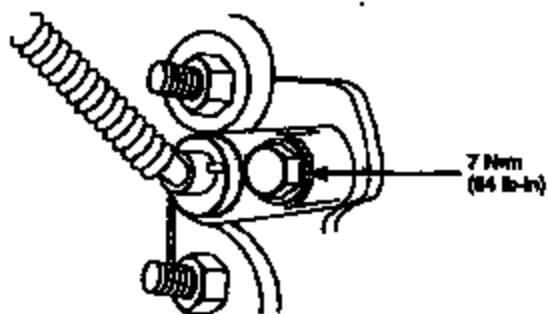

FIGURE 5
6. Remove both rear brake anti-lock sensor (refer to Figure 5).